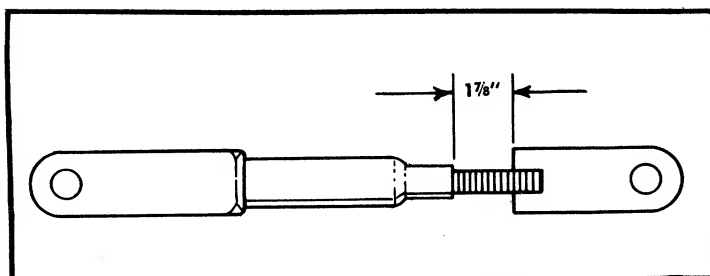

FIGURE 9. CENTER ADJUSTMENT ARM
- Step 10. Assemble the two halves of the center adjustment arm together until there is 1" of thread showing. See Figure 9.